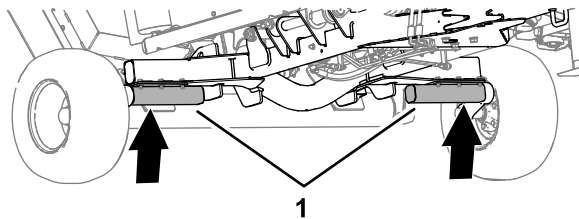

Figure 45
1. Lift the mower at the axle halves as shown in Figure 45.